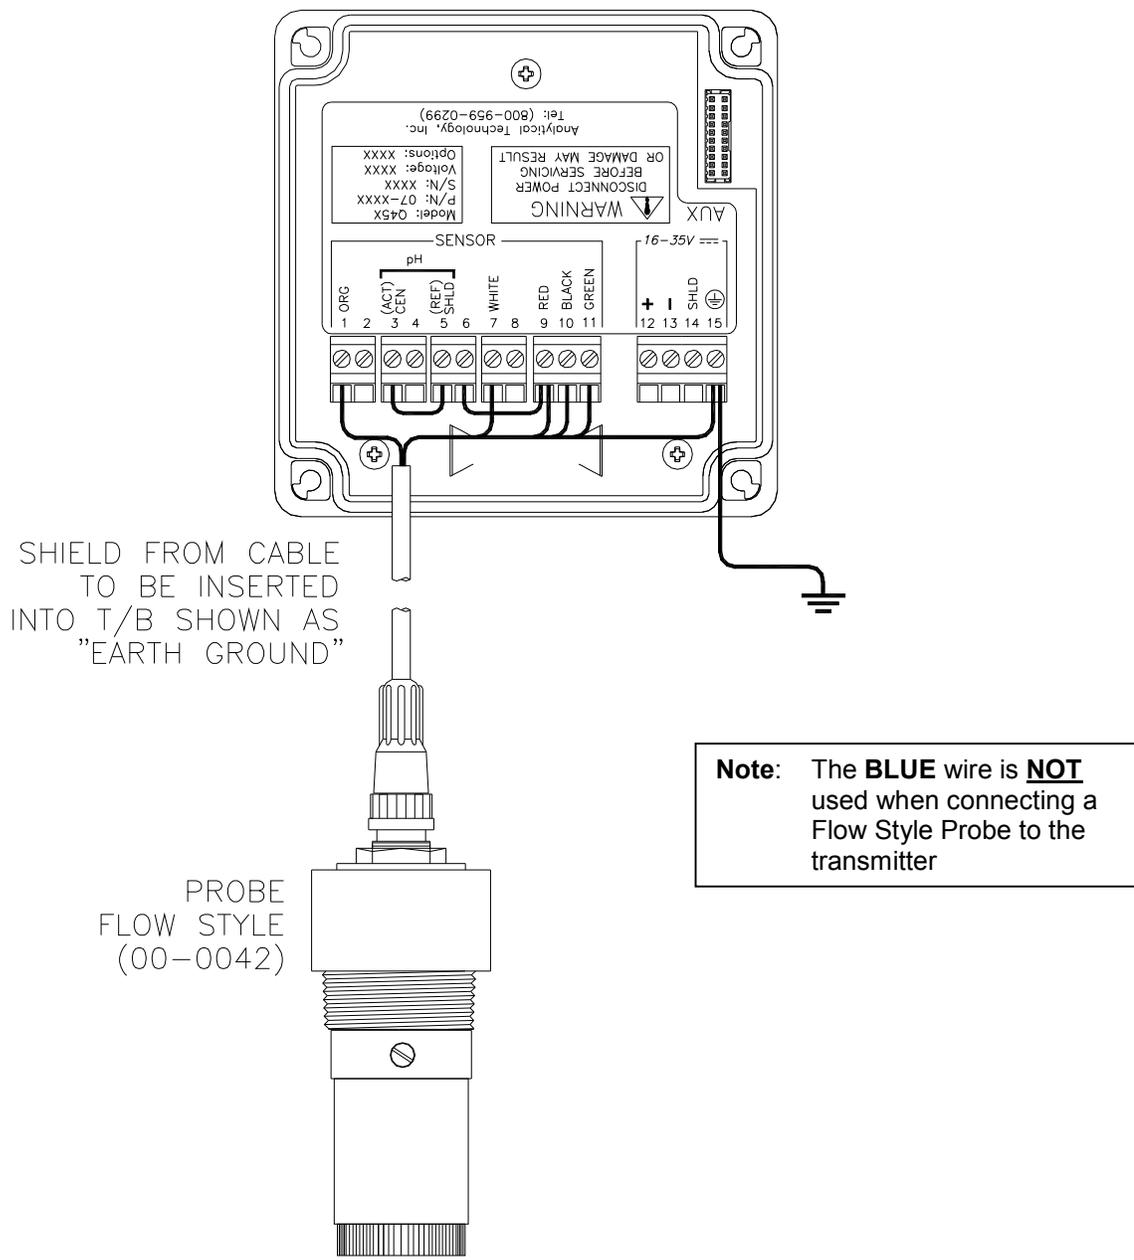
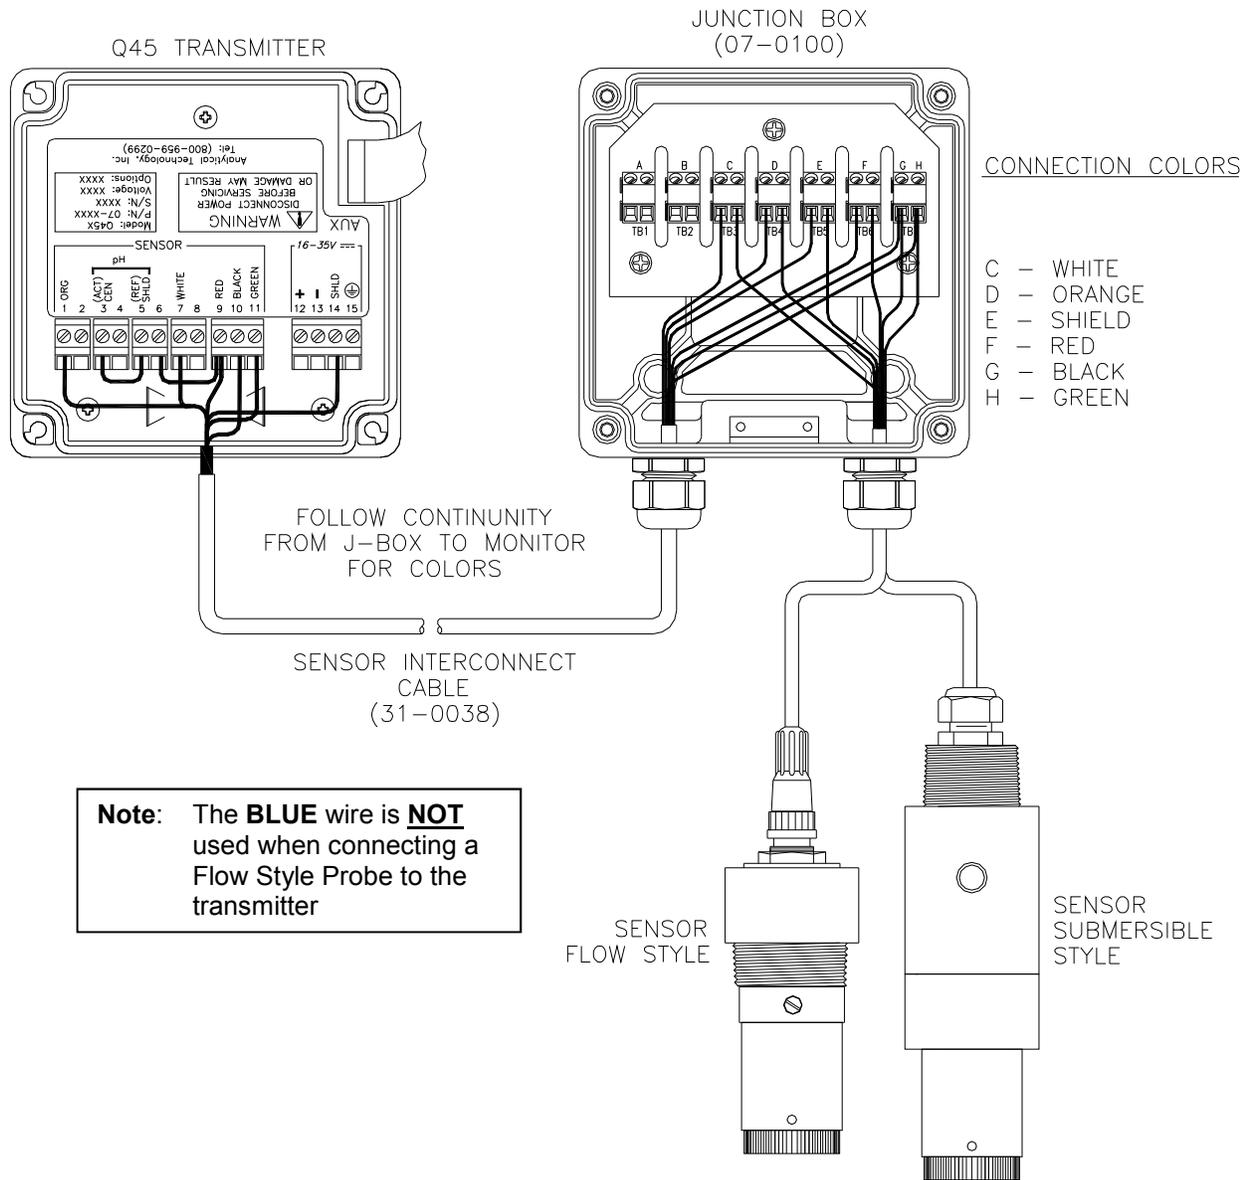

Figure 12 - Sensor Connection
Figure 15 - Junction Box Interconnect Wiring
1. Use wiring practices that conform to all national, state and local electrical codes. For proper safety as well as stable measuring performance, it is important that the earth ground connection be made to a solid ground point from terminal 15 (Figure 12.)
Q45H units ordered with the external connection option are designed for applications where power is to be supplied from an external source, and the two voltage outputs are to be wired to an external device. Figure 12 identifies the terminal connections for external powers.
Sensor connections are made in accordance with Figure 12 or Figure 15. The sensor cable can be routed into the enclosure through one of cord-grips supplied with the unit. Routing sensor wiring through conduit is only recommended if a junction box is to be used. Some loose cable is needed near the installation point so that the sensor can be inserted and removed easily from the flowcell.
For installations where the sensor is to be located more than 25 feet from the monitor (max. 100 feet), a junction box must be used. The junction box is shown in Figure 15, and is supplied with a $\frac{1}{2}$ " conduit hub on one end and a sensor cable gland on the other end.